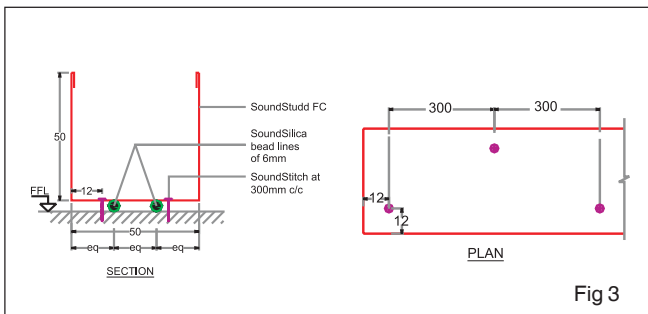

Fig 3
SoundStudd™ Floor Channel (FC) and Head Channel (HC) of specified depth, usually 50 mm, are mechanically fastened to the building elements with SoundStitch™ PB - mechanical fasteners - at 300 mm pitch with a electric self-drilling tool. (See Fig 3) For SoundStitch™ PB, holes are first drilled in the concrete, plugs inserted and the screws fastened. Where base masonry is weak, SoundStitch™ AB expansion bolts are inserted for better grip.